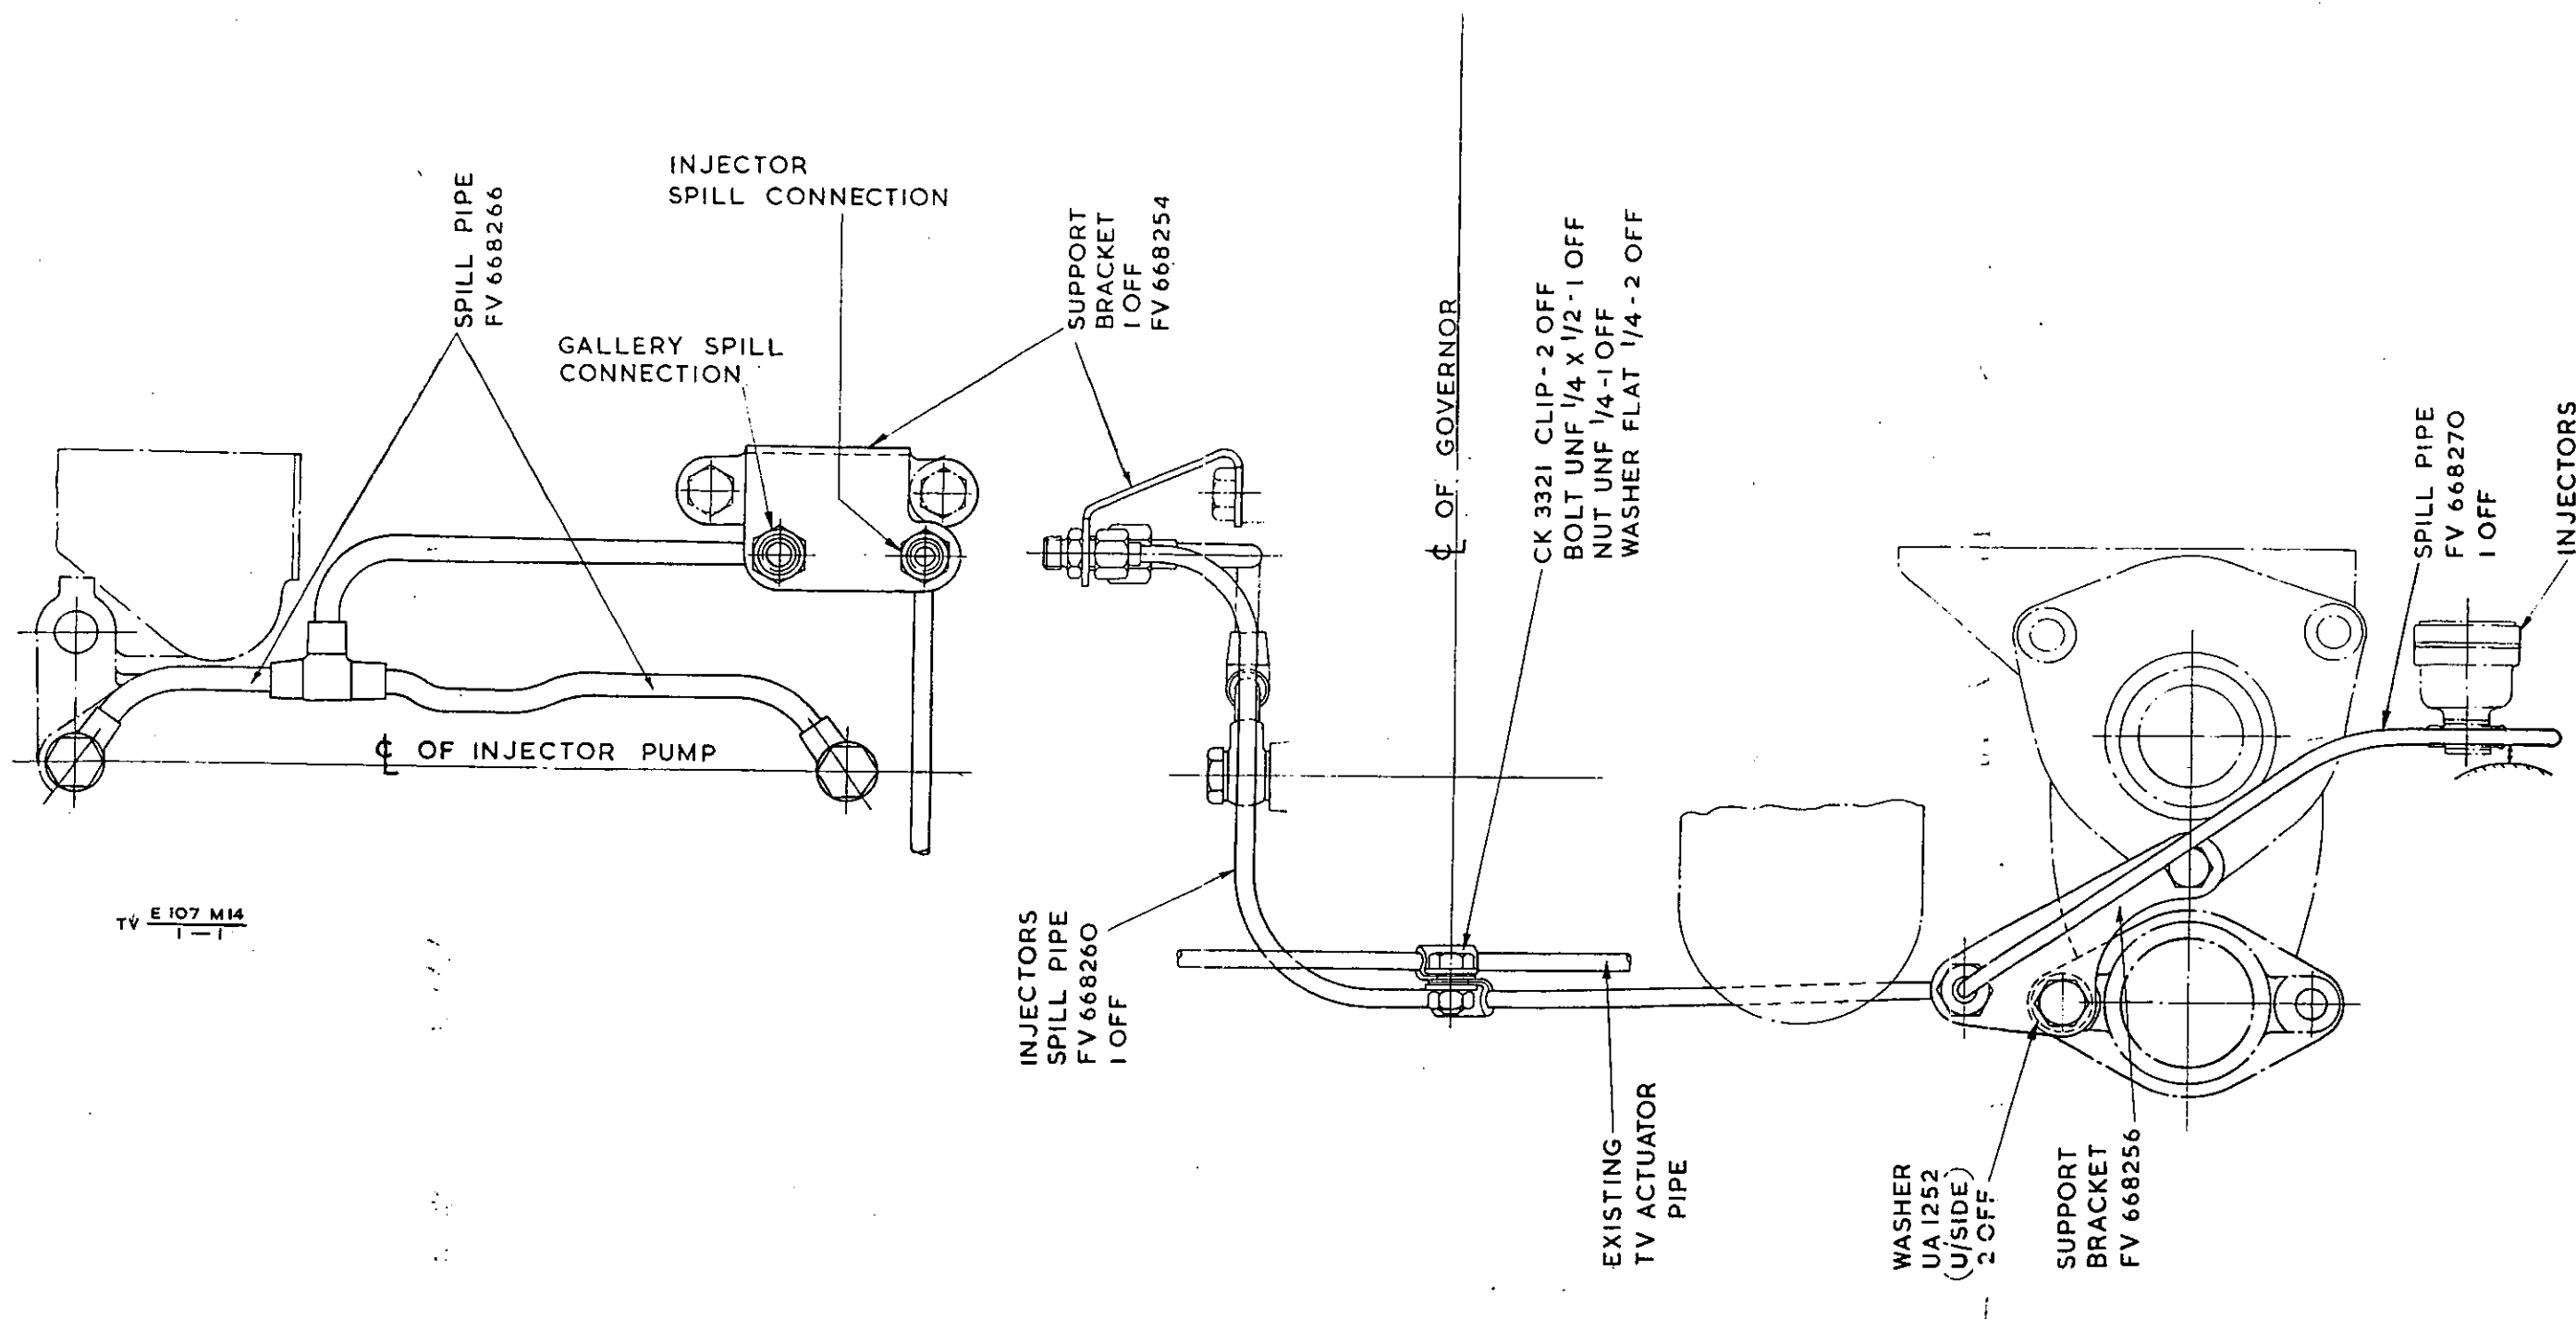

Fig 1 - Fuel pipes - Assembly
- (1) Refer to ISPL Army Code No 14660, Plate A70.
- (a) Remove and return to RAOC, the spill pipe (FV 454420, item 6), f.i.p. to tank, and injector leak-off pipe assy (2910-99-802-7304, item 10) retaining the two banjo bolts.
- (2) See Fig 1.